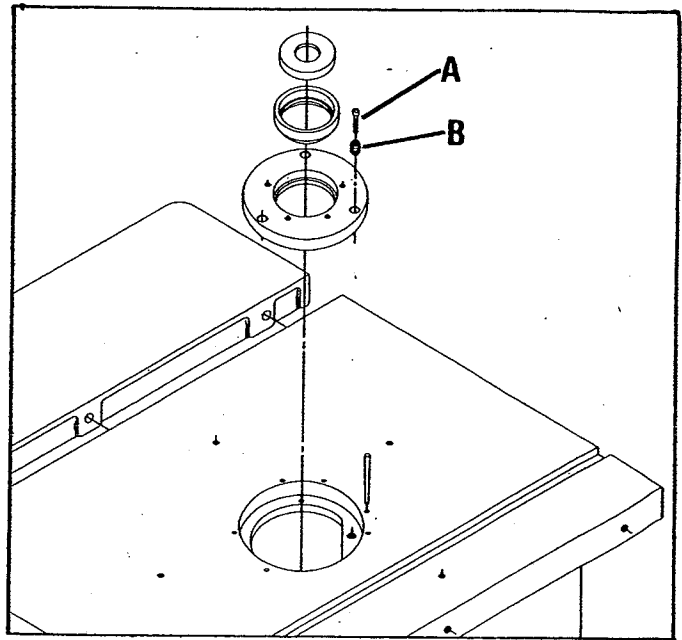

Fig. 14
Three table inserts are provided for various size cutters, as shown in Fig. 14. The large insert is adjustable and should be set flush with the table as follows:
1. Remove the three slotted head screws (A) Fig. 14.
2. Using a screwdriver, turn the three adjusting screws (B) Fig. 14, until insert is flush with table. Then replace the slotted head screws (A).